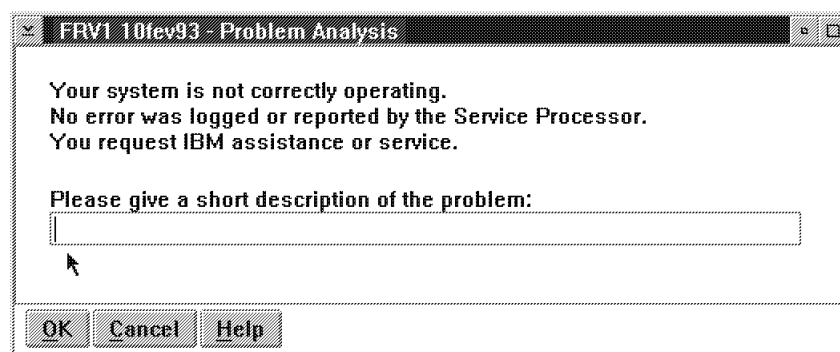

Figure 3-8. Link to RETAIN
4. ____ See Figure 3-8 on page 3-9, enter a **short description** of the problem then click on "**OK**".